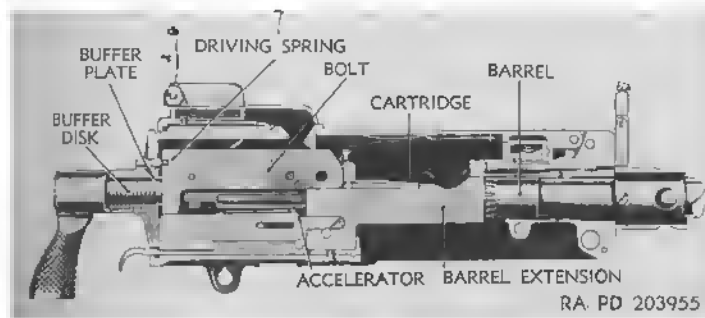
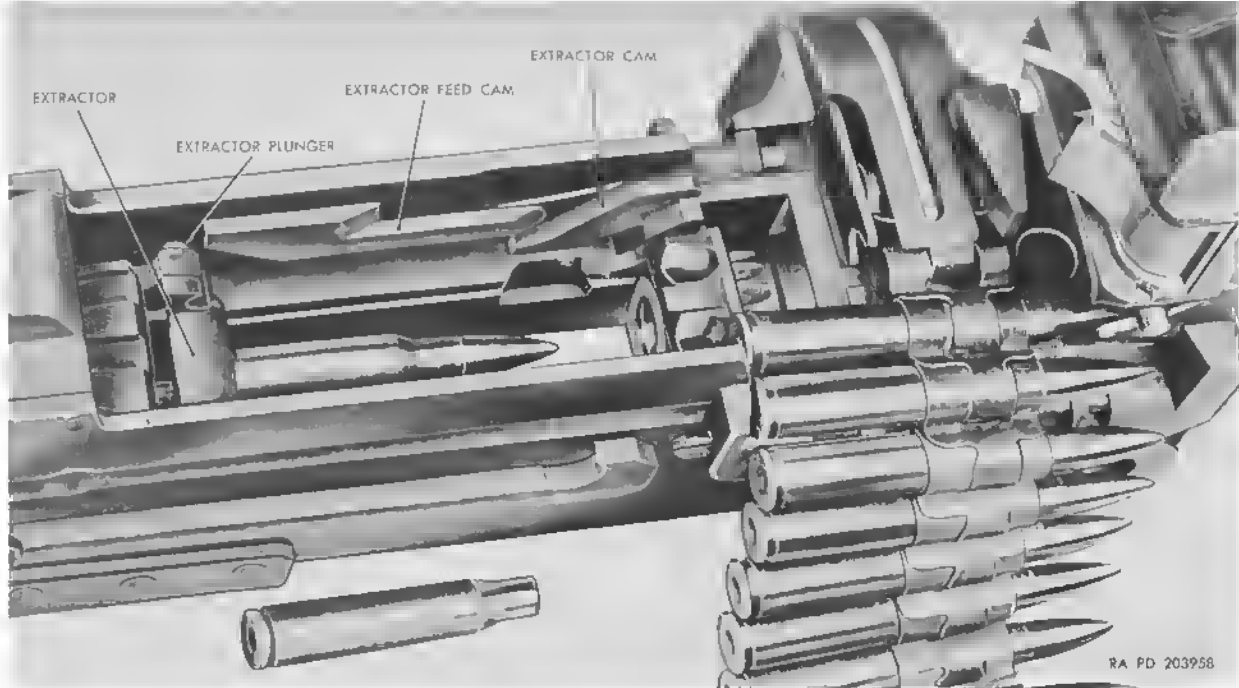

Figure 24. Recoiling parts in rear position.
Figure 28. Ejecting and chambering.
b. As the accelerator (fig. 24) turns backward, its tips strike the bottom projections of the bolt and accelerate it to the rear. The claws of the accelerator engage the shoulder of the T lug on barrel extension and lock the barrel extension to the lock frame. The barrel plunger spring is thus held compressed.
a. The driving spring assembly absorbs a portion of the recoil energy of the bolt. When the rear of the bolt strikes the buffer plate (fig. 24), its remaining energy is absorbed in the buffer plate and the fiber buffer disks. As the bolt rebounds from the buffer plate, the energy of the disks and spring is returned to the bolt as it goes forward.
b. When the bolt starts forward from the position shown in figure 24, the extractor assembly is guided downward by the action of the bottom surface of the extractor feed cam on the extractor plunger. This causes the extractor assembly (fig. 28) to force the cartridge down the T slot, in line with the barrel chamber. The upper end of the cocking lever is forced backward, causing the lower end to move forward, away from the rear of the firing pin. If the firing pin assembly is prematurely released, it is re-engaged by the cocking lever and eased forward so that the firing pin cannot contact the primer of cartridge until after the breech has been locked.